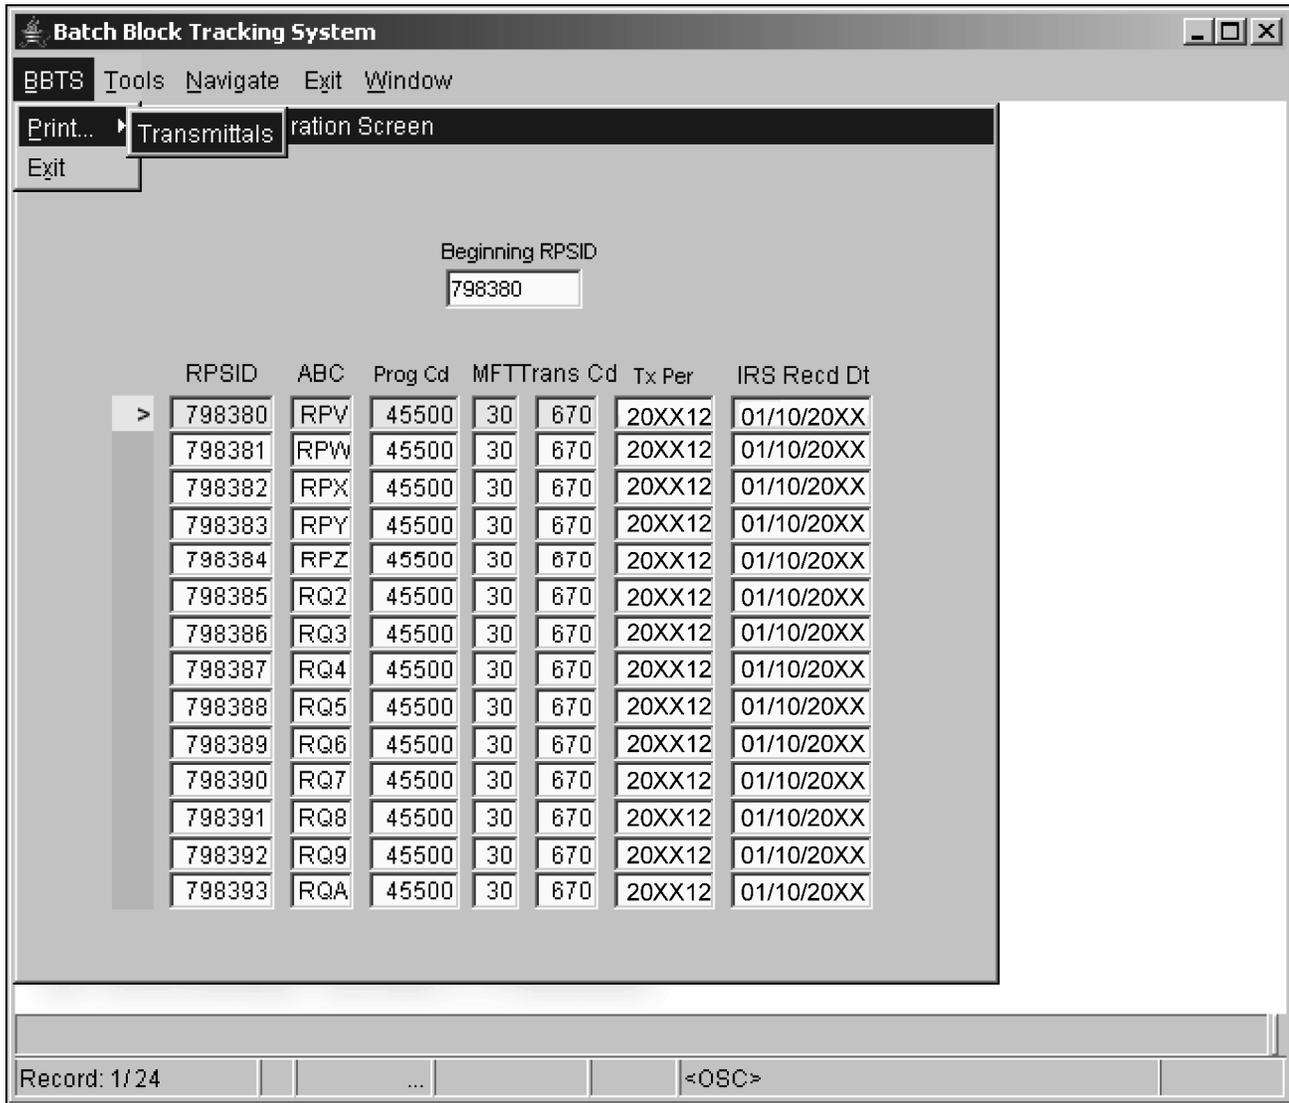

Figure 3.10.5-56 Navigating to the Print Transmittal Screen
- (4) Enter the beginning RPSID number. Press <TAB>.
- (5) Enter the Program number. Press <TAB>.
- (6) Enter MFT. Press the <TAB> key.
- (7) Enter the Transaction Code. Press <TAB>.
- (8) Enter the Tax Year (YYYY). Press <TAB>.
- (9) Enter the Tax Period (MM). Press <TAB>.
- (10) Enter the Received Date (MMDDYYYY). Press <TAB>.
- (11) Enter the number of RPSIDs. Press <TAB>.
- (12) Select the "Generate RPSIDs" button.
- (13) Screen displays list of generated RPSIDs.
(14) To print transmittals, select “BBTS”, “print”, “transmittal”. See Figure 3.10.5-56.
(15) The Form 9382, Batch Transmittal(s) generates as an Adobe Acrobat pdf file. When the file has been generated print the transmittal(s). See Figure 3.10.5-57